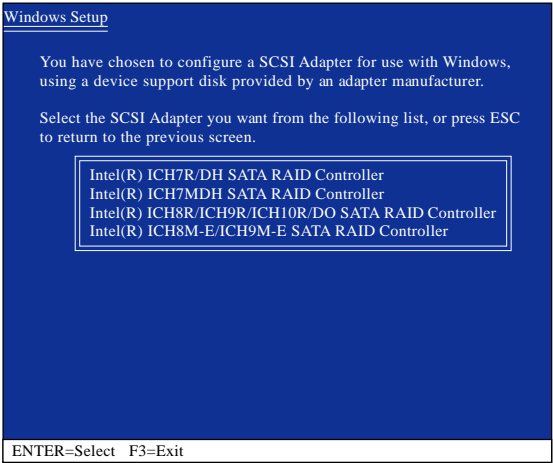

Figure 2
Insert the floppy disk containing the SATA RAID/AHCI driver and press <S>. Then a controller menu similar to Figure 2 below will appear. Select Intel(R) ICH8R/ICH9R/ICH10R/DO SATA RAID Controller and press <Enter>.